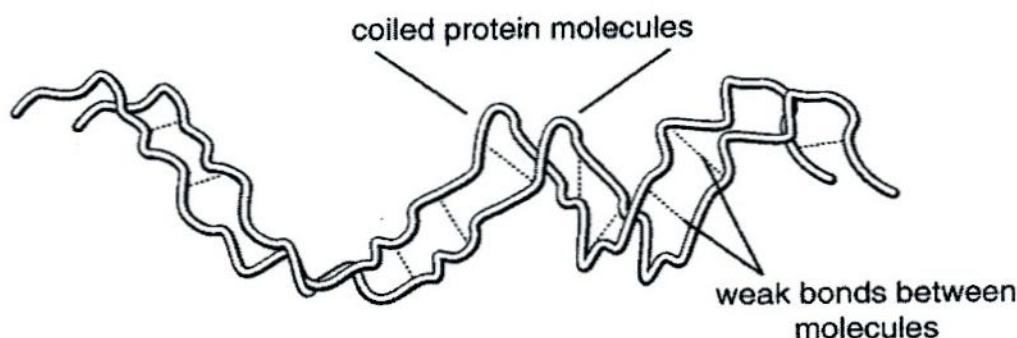

Fig. 11.3
- (ii) The protein fibres are made of long coiled protein molecules (Fig. 11.3).